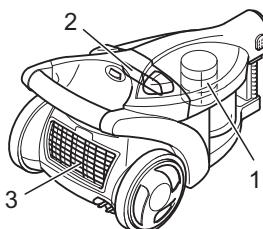

Fig. 19
- **Central laminar filter (Fig. 19/1)**
- **Protective motor filter (Fig. 19/2)**
- **Hygienic blow-out filter (Fig. 19/3)**